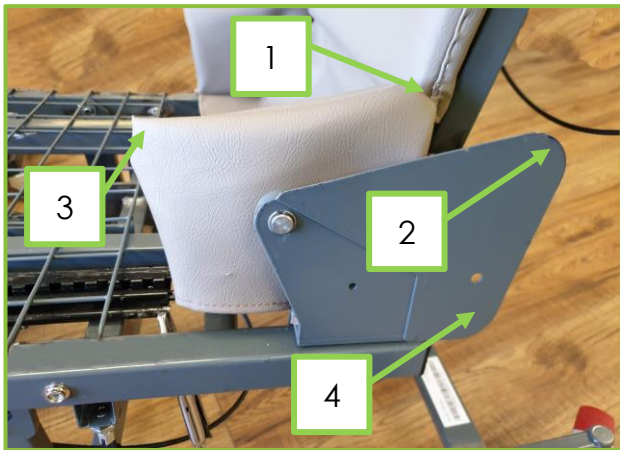

Figure 5 – (Seat cushion shown removed for clarity.)
7. There is a cover attached to the bottom of the backrest to cover the backrest hinge. To fit this cover, place the first part of the cover (Fig 5, Item 1) over the rear part of the hinge protection plate (Fig 5, Item 2), then pull the front part of the cover (Fig 5, Item 3) down over the hinge.
8. Figure 6 shows the backrest hinge cover from the inside. Place the lower pocket of the backrest hinge cover (Fig 6, Item 1) over the lower part of the hinge protection plate (Fig 5, Item 4) to secure the hinge cover in place.